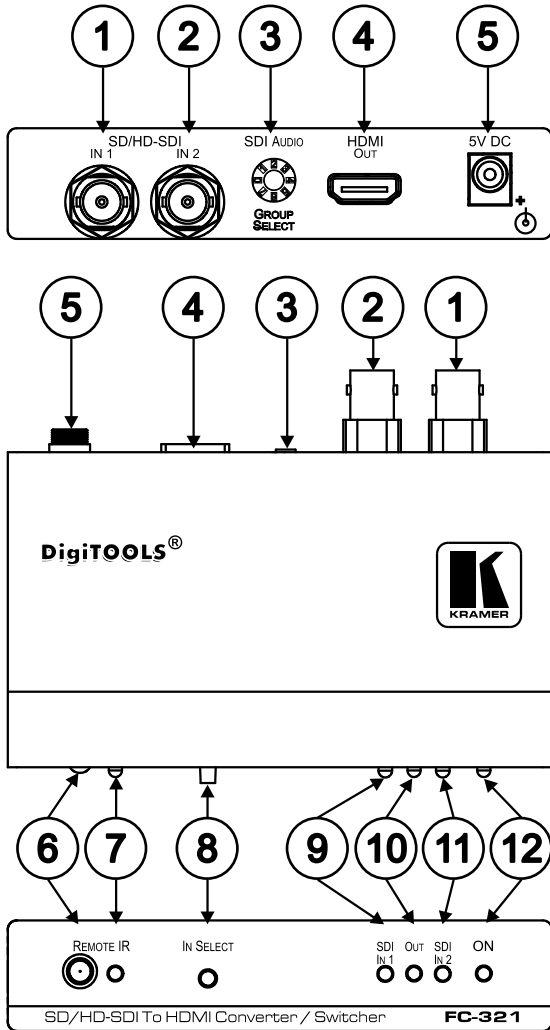

Figure 1: FC-321 SD/HD-SDI to HDMI Converter/Switcher
| Figure 1: | FC-321 SD/HD-SDI to HDMI Converter/Switcher | 5 |
*Figure 1 and Table 1 define the **FC-321 SD/HD-SDI to HDMI Converter/Switcher**.*